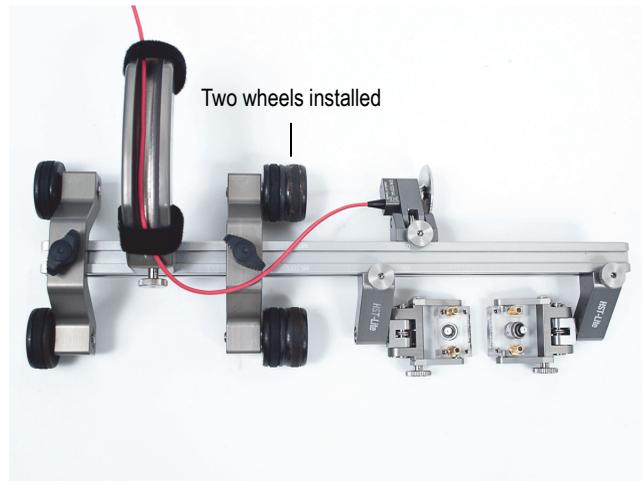

Figure 1-24 Offset configuration
1. Install the scanner components as shown in Figure 1-24 on page 27.